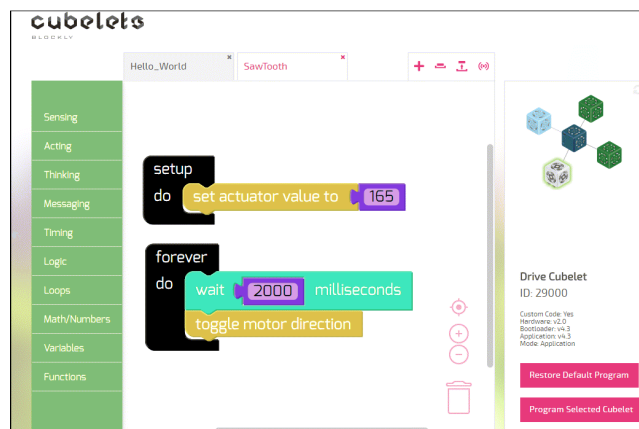

Figure 5
Figure 5 shows the Cubelets Blockly program for the challenge to make a DRIVE Cubelet move back-and-forth with a Voyager Range Finder graph that is triangular. The DRIVE Cubelet is of the *act* category. Numbers from 0 through 255 are used to set the speed of the roller wheels from stopped (0) to a maximum speed (255). The *setup do* block sets the speed to a constant medium value of 165. The *forever do* block waits for 2 seconds and then toggles the motor direction.